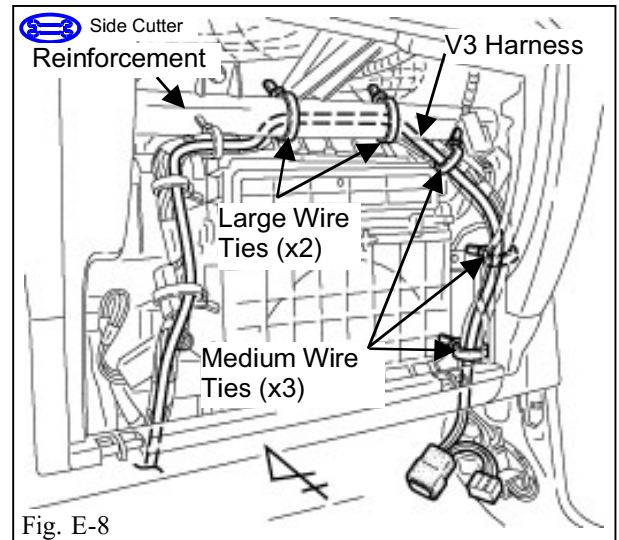

Fig. E-8
10. Route and secure the V3 harness to the reinforcement with two large wire ties. (Fig. E-8)
11. Route and secure the V3 harness to the vehicle harness with three medium wire ties above the passenger side cowl area. (Fig. E-8)